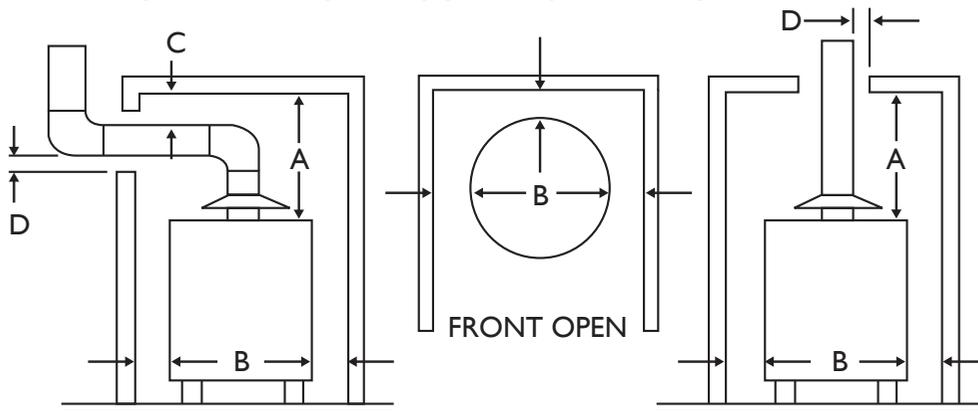

**Figure 3**
- b) Installation of a water heater in a garage, unless the unit is installed so that the burner and ignition devices are at least eighteen (18) inches above floor level and protected to avoid damage by moving vehicle. See Figure 3.